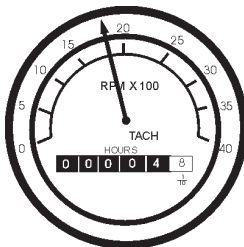

Figure 53. Engine Tachometer
14. The tachometer (Figure 53) will indicate the speed of the engine when the generator is operating. Under normal operating conditions this speed is approximately 1800 RPM's.